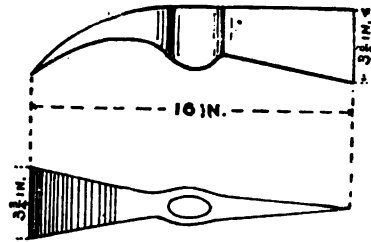

FIG. 10.—GRUB-HOE.—Weight 5 1/4 lbs.
**Grub Hoes.** (Fig. 10.) These are very useful tools in cutting roots and grubbing heavy sod, and the like, preparatory to new work; also handy in ditching and removing tough grass from the side of the track. One is made of 1-2 in. × 2 in. iron with an adze edge at each end, both steel shod. One of these edges is horizontal and the other perpendicular or in line with the handle so that it can be used as an axe. Length over all is 16 in. and length of cutting edge 3 1-4 in. Eye like a pick 2 in. × 3 in. × 2 1-2 in. deep. Weight 5 1-2 lbs. and five or six can be made in a day.